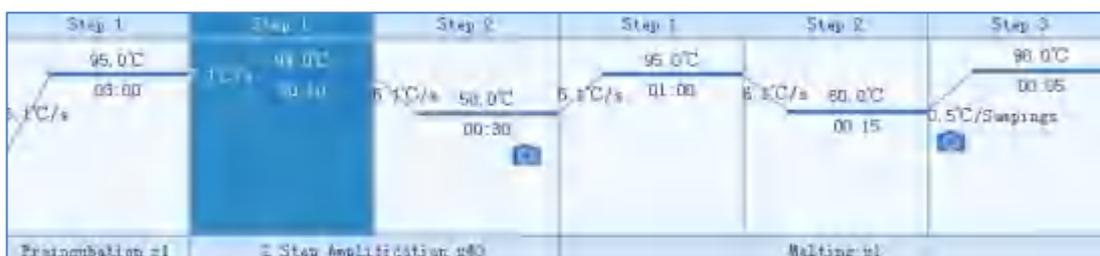

Figure E-3.1. Temperature Setting sub-tab - Example temperature program
6. **Temperature program area:** after stage or step setting, the temperature program area will display the current temperature program, as shown in figure E-3.1. The parameter descriptions are same with those introduced in D-3.3.1 Run Setting - Introduction to Temperature Program Area.